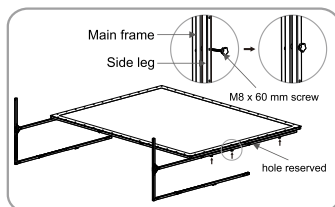

Figure 16
- It is suggested to install the main frame on a flat ground. Put the completed legs besides the main frame short side and fix it to the main frame according to required screen height by means of M8 x 53 mm screw (Figure 16 - 17). (Note: Leave one hole on the main frame for the fastening of the M8 x 60 mm screw.)